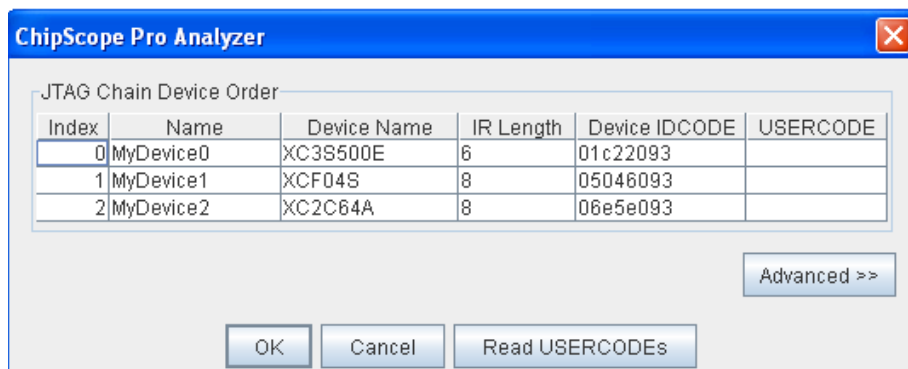

Figure 1-89. ChipScope JTAG Device Order
- ❶ Launch the ChipScope Pro Analyzer tool from the program group or desktop icon
- ❷ Click on the Open Cable/Search JTAG chain icon.  This will identify the devices on the JTAG chain (**Figure 1-89**). Click **OK** to open ChipScope Pro Analyzer with default **Trigger Setup** and **Waveform signal** windows.